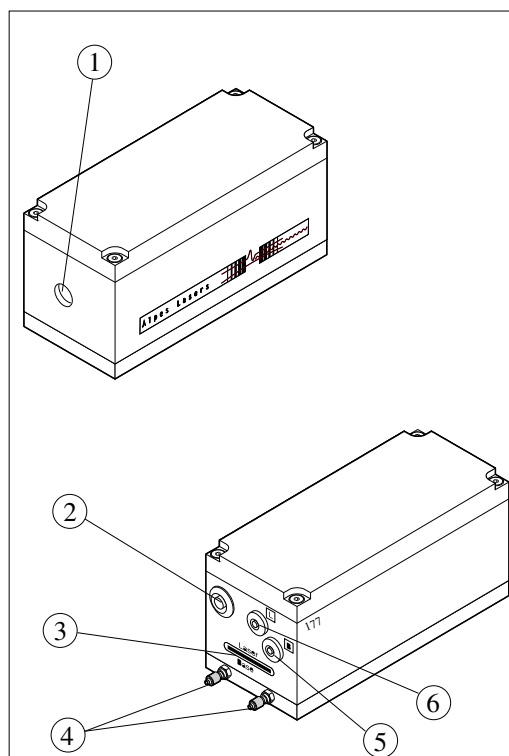
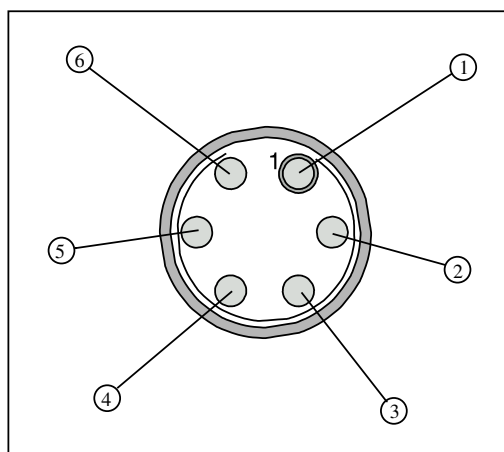

Figure 5.14.: LLH housing description.
Figure 5.15.: LLH housing connector (2).
The LLH front and rear panels are shown in figure 5.14. The different parts are described below:
The Peltier connector (2) shown in figure 5.14 is zoomed in figure 5.15. It carries 6 pins, described in table 5.6. Pin 1 is circled, and a half-moon engraving runs from pin 1 to pin 6. A fixed current is supplied to pin 3 and 6 (typically 10 μA). The resistance of the thermistor varies as a function of temperature and the temperature measurement is given by the voltage between pin 4 and 5.
The TC-3 controls the temperature of the LLH with a Peltier junction and monitors the temperature with a temperature sensor³ through the C-TC-3-LLH cable, shown in figure 5.18. The Peltier connector is identical to the connector shown in figure 5.15. The controller connector is a DB-15 connector described in table 5.4.